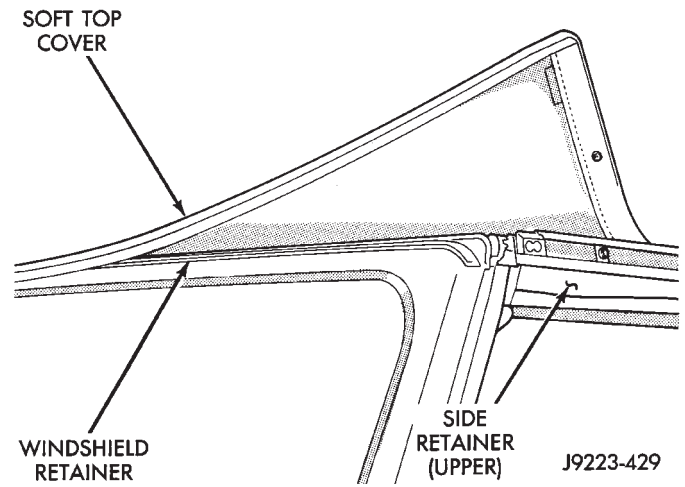

Fig. 110 Detaching Top Cover At Windshield
(5) Insert the front edge of the top cover into the retainer channel on the windshield frame (Figs. 110 and 117).